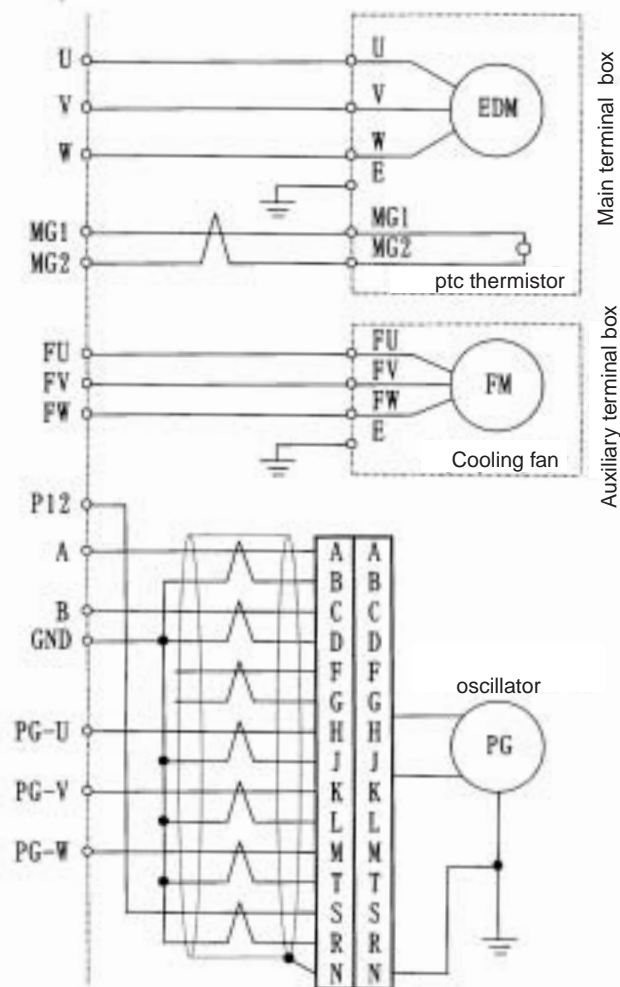
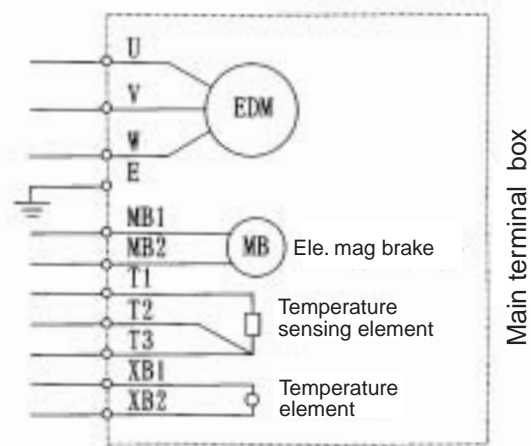

Fig. 3
Fig. 4
Fig. 3 shows the standard connection diagram. In case that the temperature sensing element (pt100Ω), temperature element (bimetal type) and electromagnetic brake are provided, all these terminals are housed in the main terminal box and their terminal symbols are as shown in Fig. 4.
- (1) Terminals must be connected correctly in accordance with connection diagrams (Fig. 3, Fig. 4). Due attention should be paid to the following points.